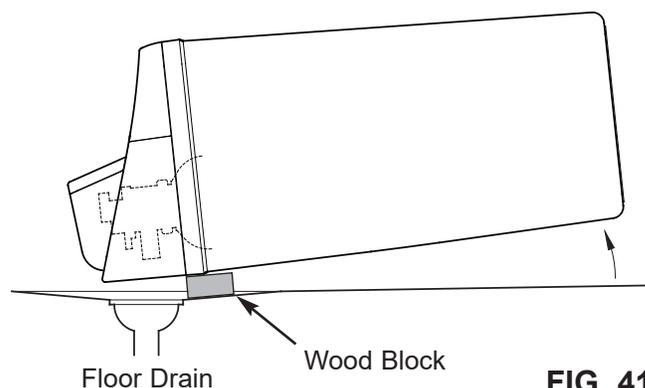

FIG. 41
6. Lay a piece of 2 inch thick board near the floor drain (See Figure 41).